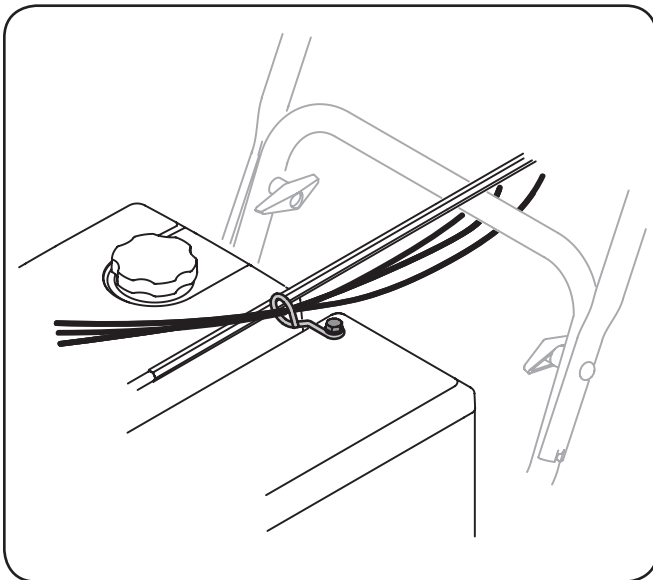

Figure 3-10
9. Check that all cables are properly routed through the cable guide on top of the engine. See Figure 3-10.
- Check that all cables are properly routed through the cable guide on top of the engine. See Figure 3-10.